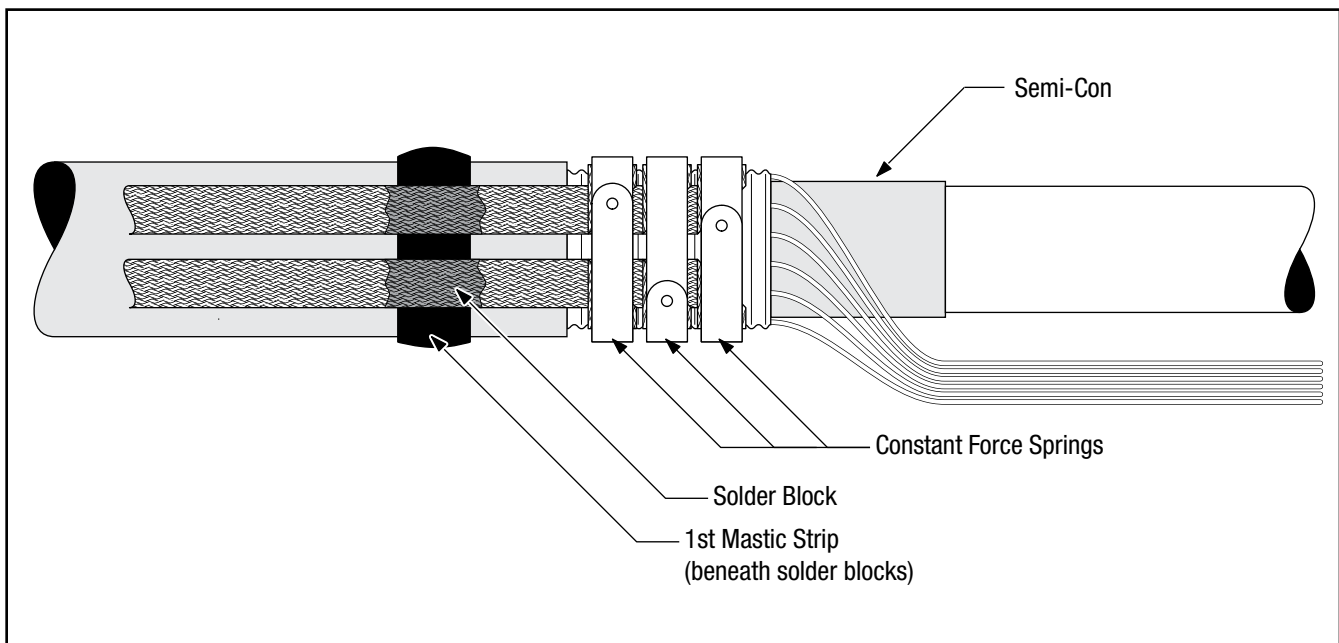

Figure 5
- 2.4 Select the roll of 1" ( 25 mm) wide 3M™ Scotch-Seal™ Mastic Tape 2229 from the kit. Cut a length of the tape long enough to wrap around the cable jacket. Remove the release liner from the mastic and, using light tension, apply a single wrap of mastic around the cable jacket, positioned under the ground braid solder blocks. (*Figure 5*)